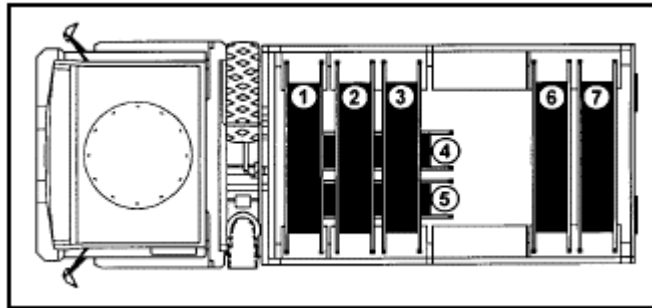

Figure 3-58
4. Direct nonmedical soldiers to load an M-1081. (See Figure 3-58.)